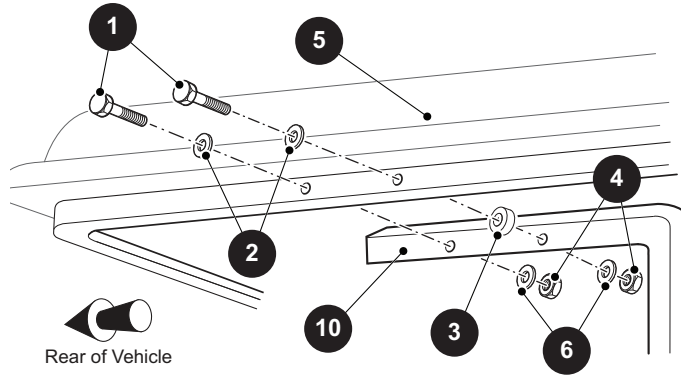

Fig. 1 Sun Top Rear
1. Remove the lock nuts (4), bolts (1), washers (2, 6), and spacers (3) securing the sun top (5) to the rear strut (10) (Ref Fig. 1).